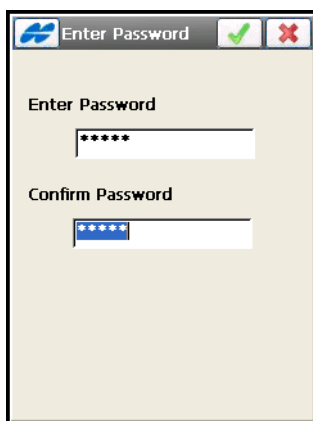

Figure 3-100. Enter Password
- Lock Menu** – press to set a password to protect the selected menus from changing (see Figure 3-100 on page 3-100).